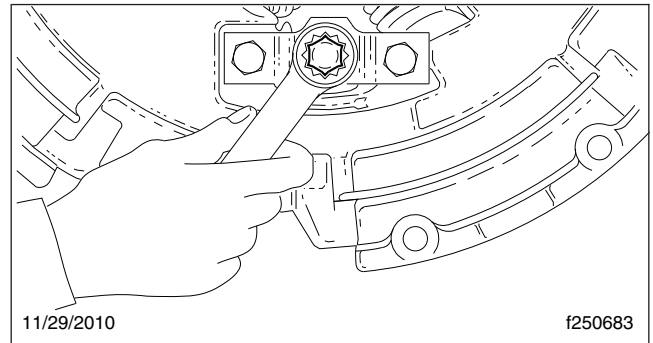

Fig. 9, Manual Adjustment, Easy-Pedal Clutch (shown with bell housing removed)
5. Adjust the clutch, using a 5/8-inch box-end or socket wrench on the adjustment bolt. See **Fig. 9**.